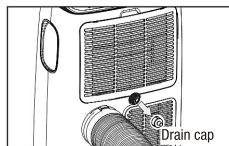

Fig. 27
### Manual Draining (Fig.27)
2. Remove the drain cap (Fig.27). While doing this operation some residual water may spill so please have a pan to collect the water.